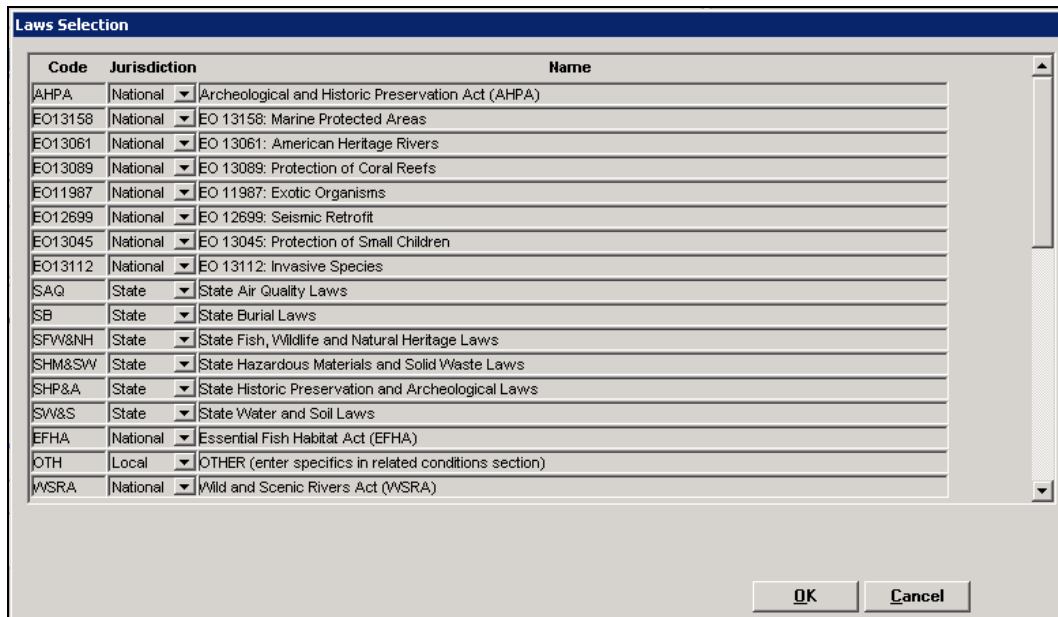

Figure 7-31: Laws Selection Window
a. The Laws Selection window is displayed (Figure 7-31).